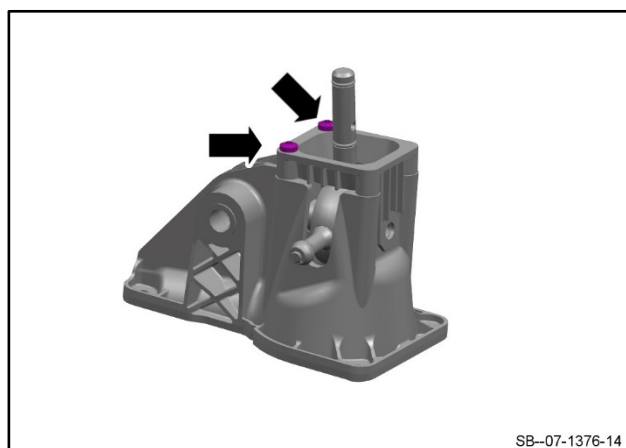

Figure 12
13. Install, but do not fully tighten, the two screws that attach the travel stop to the shifter tower (refer to Figure 12).